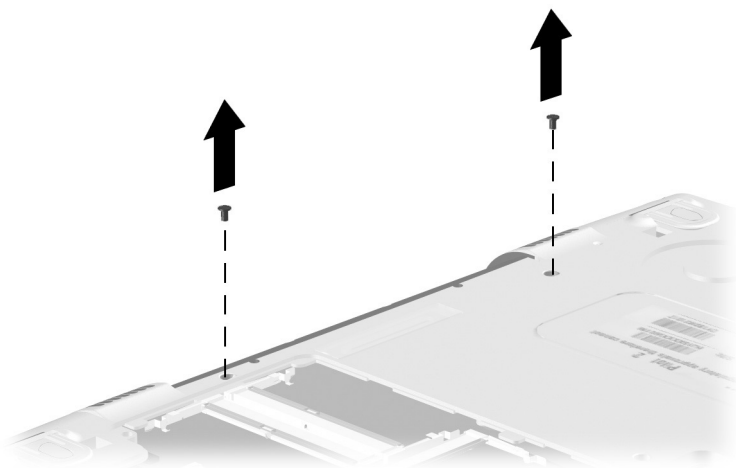

Figure 5-12. Removing the LED Cover Screws.
3. Remove the two PM2.0 × 8.0 screws that secure the LED cover to the base enclosure (Figure 5-12).